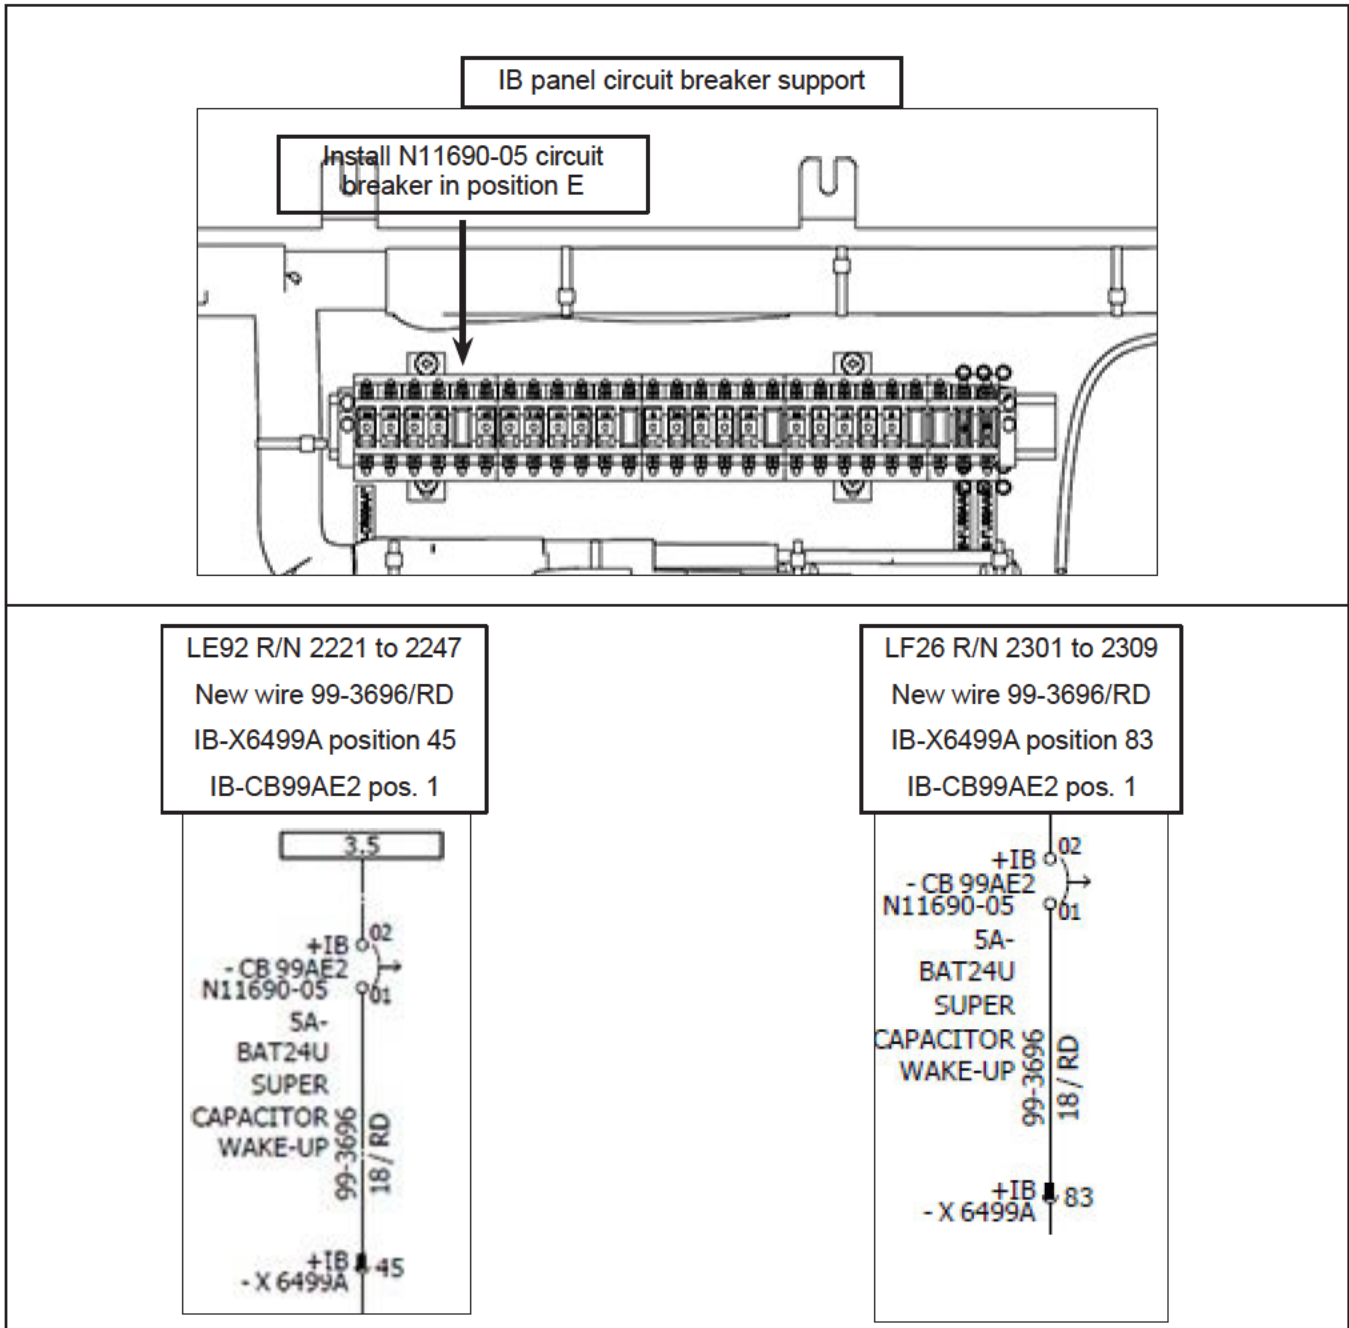

Figure 11 - New Breaker N11690-05 and New Wire 99-3696 Installation
- 1.27. Install the N11690-05 circuit breaker supplied in wire kit N632001301, on the circuit breaker support of the IB panel. See Figure 11.
- 1.28. Connect wire 99-3696/RD (available in wire kit N632001301) on circuit breaker IB-CB99AE2 and in connector IB- X6499A. See Figure 11.